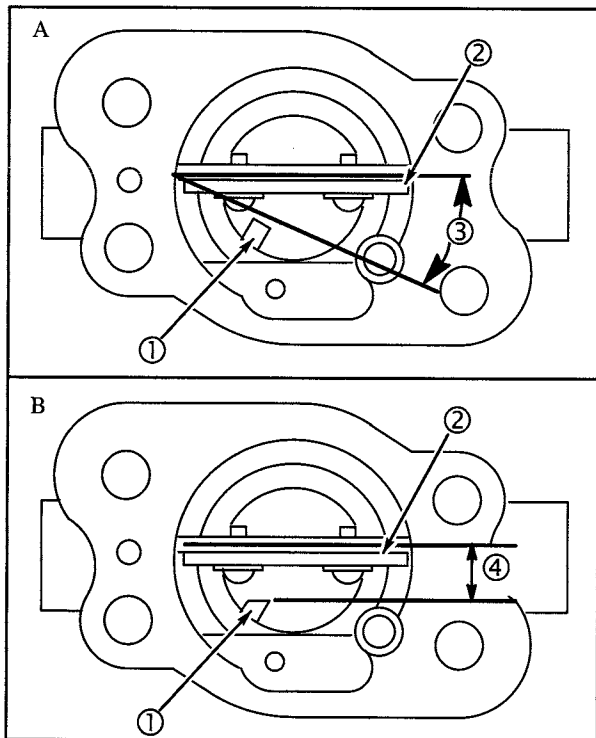

Fig. 95
Two carburetor bodies are used, depending upon the use of a fuel pump (illustration A) or gravity feed (illustration B) fuel delivery system, Fig. 95. Besides a change in jetting, the end of the discharge nozzle is machined at a different angle. Since the discharge nozzle is an integral part of the carburetor body the carburetor bodies are not interchangeable. The carburetor bodies can be identified by looking down the carburetor throat and comparing the end of the discharge nozzle (1) in relation to the choke shaft (2), Fig. 95. On a fuel pump carburetor the end of the nozzle is at approximately a 20° angle (3) to the choke shaft (2). On a gravity feed carburetor the end of the nozzle is approximately parallel (4) to the choke shaft. The fixed main jet used with a fuel pump system is numbered 110. The fixed main jet used with a gravity system is numbered 117.5.